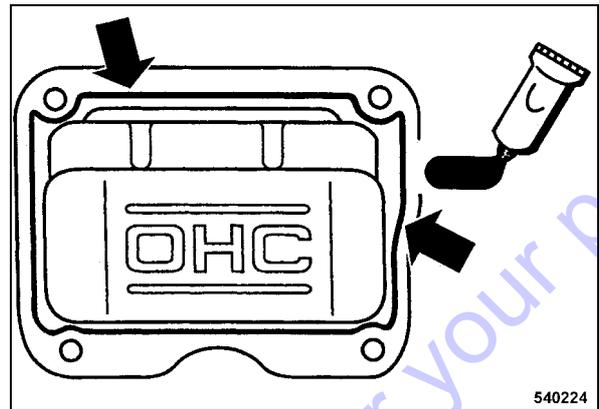

Fig. 53
- Apply a bead of liquid gasket (Three Bond 1207B or similar) with a diameter of approx. 1.5 to 2 mm to the inside of the cylinder head cover (Fig. 53).